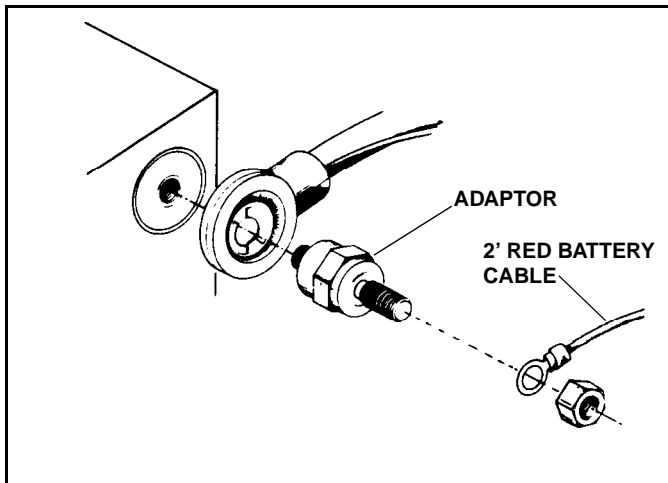

Figure 4
*NOTE: If the vehicle has a "side post" battery, it is recommended that adaptors be purchased to make connections at the vehicle battery easier. (See Figure 4) Adaptors can be purchased locally or are available from your Sno-Way Dealer in packages of two (2), Part #96100773.*
10. Attach the other 2' long Red battery cable to the battery terminal of the circuit breaker and to the POS. (+) battery terminal. (See Figure 4)